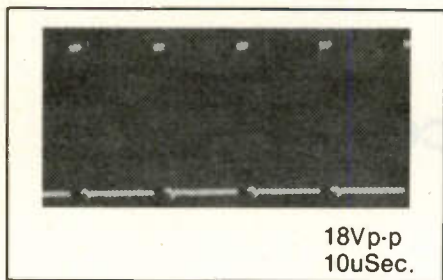

Figure 3
- Pin 7, IC111 should have a square wave about 15Vp-p. (See Figure 3).